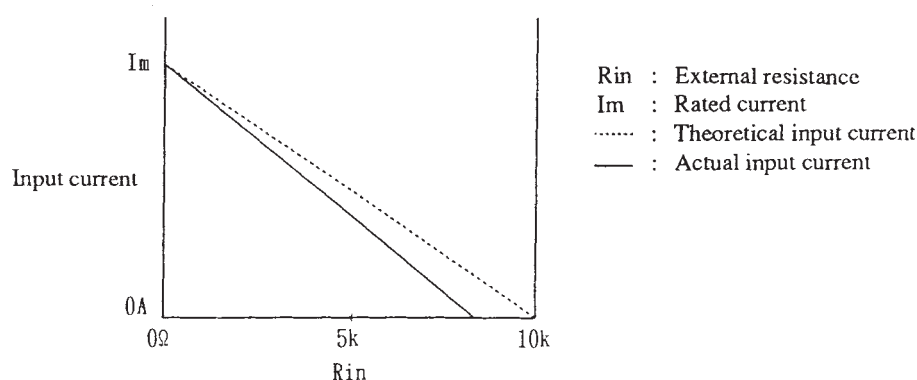

Figure 3.7-4
- The control circuit of the Electronic Load is designed so that the current (I_o) becomes absolutely zero amperes when the external resistance (R_{in}) is $10k\Omega$ --this resistance with some tolerance as shown in Figure 3.7-4.